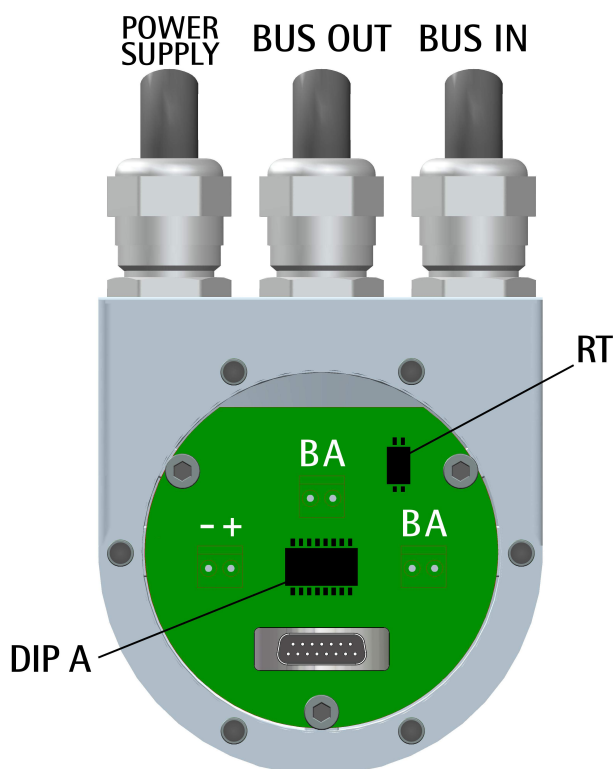

Figure 2 - Connection cap
5.4 Setting the node number: DIP A (Figure 2)
After having set the device address, please check the position of the bus termination switch (see the "5.6 Bus termination resistance (Figure 2)" section on page 31).
5.6 Bus termination resistance (Figure 2)